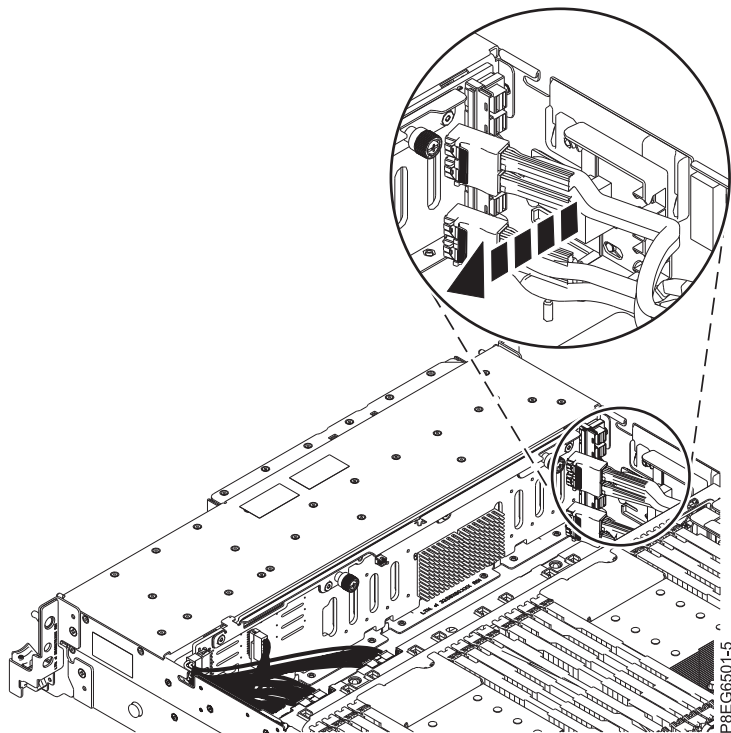

Figure 15. Unseating the SAS cables
4. Unseat the front SAS cables from the cable guide on the side of the system chassis as shown in Figure 15.